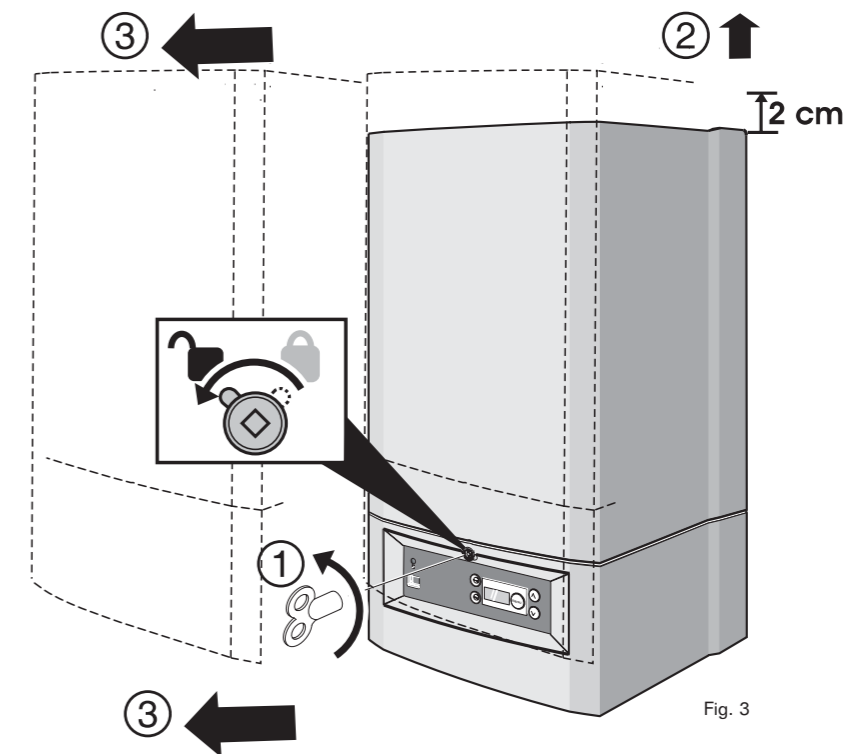

Fig. 3
6. Using the radiator key supplied, open the case locking mechanism (Fig. 3 item 1).